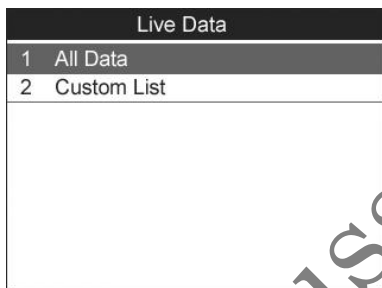

Figure 13.7
- 1) From the Live Data menu (Figure 13.7), use the **UP/DOWN** scroll button to select **All Data** and press the **OK** button.
- 1) To retrieve customized live sensor data, use the **UP/DOWN** scroll button to select **Custom List** from **Live Data** menu (Figure 13.7) and press the **OK** button.